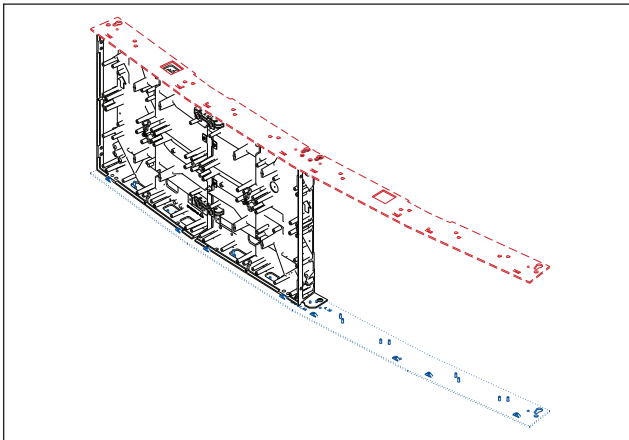

Figure 3: Set Angle Position
- b. Use the jigs on the tops and bottoms of the panels to set the angle position before tightening the interconnect bracket hardware. Refer to **Figure 3**.